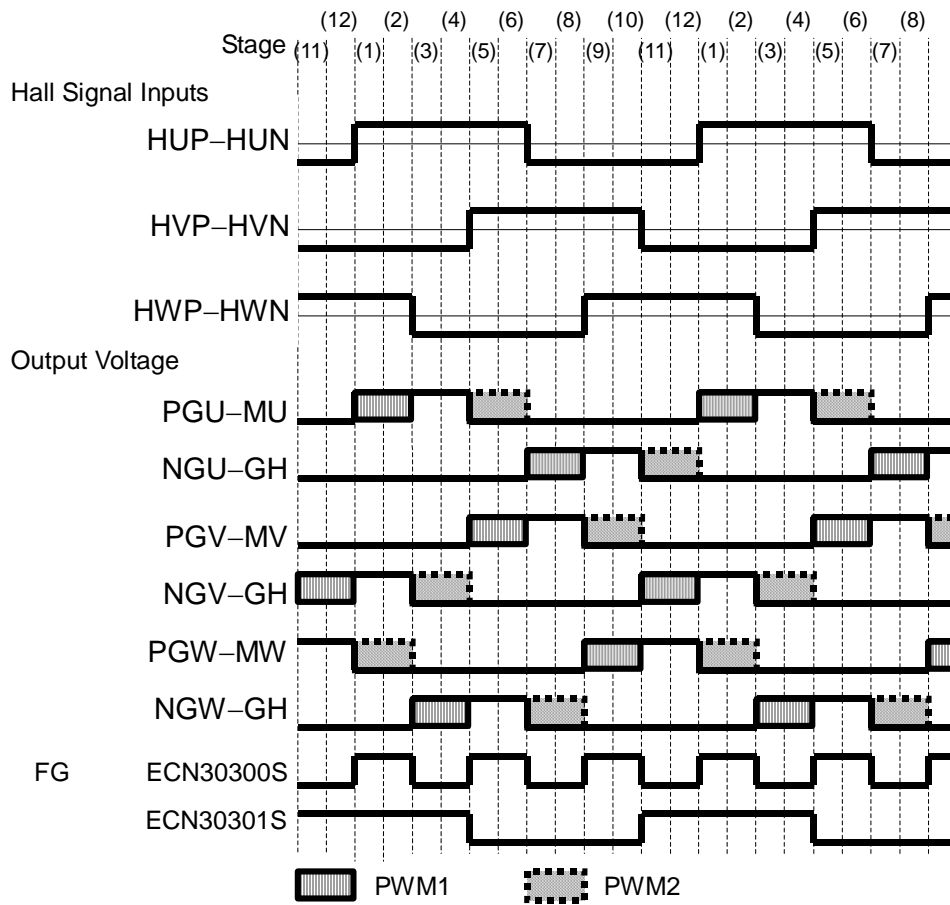

Figure 12 Hall IC using the example of timing chart
- Overlapped energizing periods become 60 electrical angle degrees (See Figure 12) and unstable.